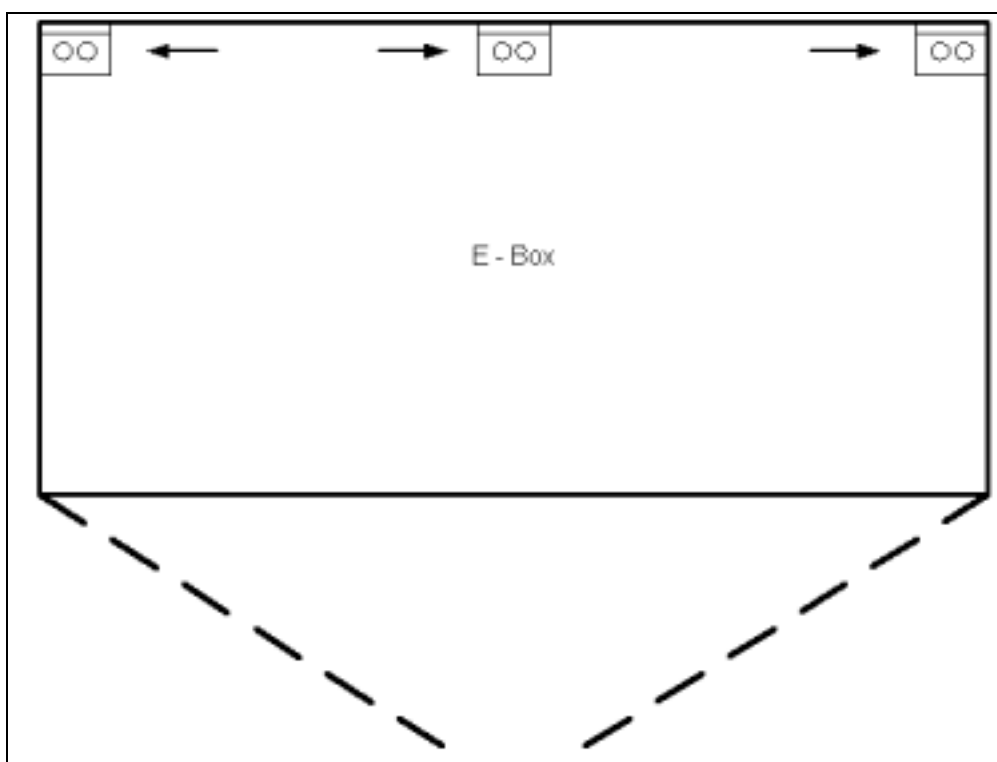

Fig. 6 E_Box_1
- The 6 attachment brackets must be attached to the outside of the electronics box with 2 screws in each of the threaded holes; see Fig. 6. Take the 6 attachment brackets and 12 screws out of the small hardware bag.